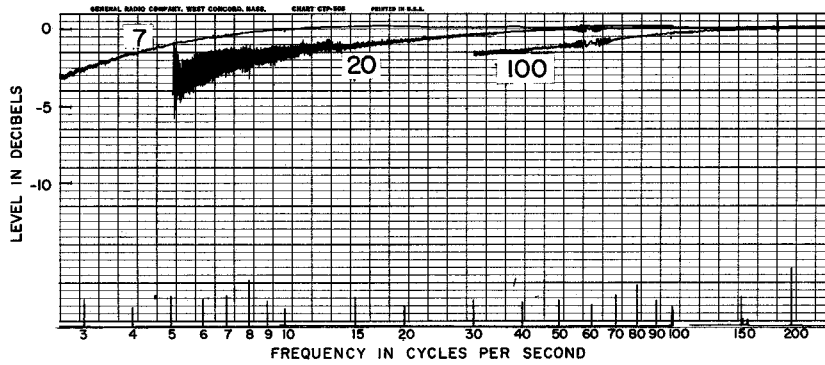
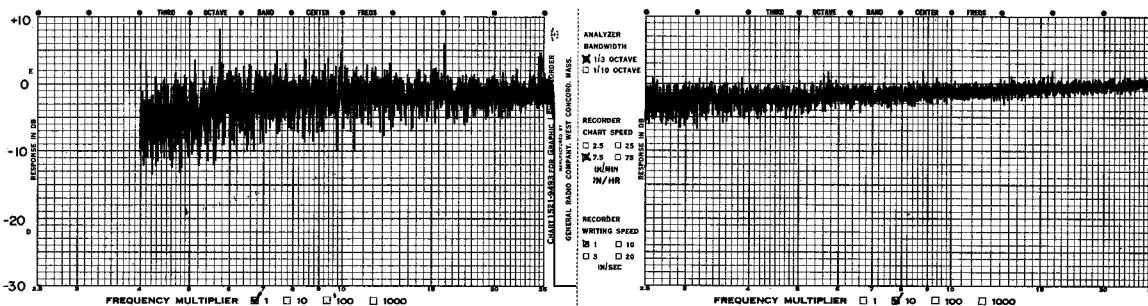

Figure 3.1. Frequency-response plot of the recorder for various positions of the low-frequency cutoff switch.
Figure 3.2. Low-frequency response to a 1/3-octave band of pink noise, with a writing speed of 1 inch/second.
3.2.5 LOW-FREQUENCY CUTOFF. The WRITING SPEED switch also changes the low-frequency cutoff. This information is engraved on the front panel. The engraved frequency corresponds to the point where the response is less than 1 db down. Figure 3.1 shows the frequency-response plot of the recorder for various positions of the low-frequency cutoff switch. Figure 3.2 shows the low-frequency response to a 1/3-octave